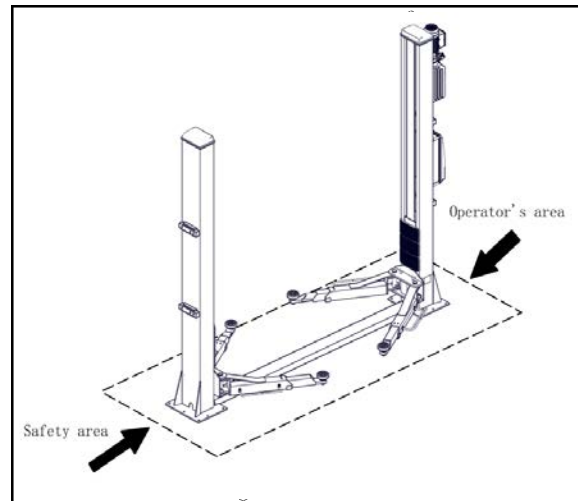

Fig. 8 Working Area
During lift and descent movements, the operator must remain in the command station as defined in figure 8. The presence of persons inside the danger zone indicated in the same figure is strictly prohibited. The presence of persons beneath the vehicle during operations is permitted only when the vehicle is parked in the elevated position.
- ◆ People rest inside the safety area while the vehicle raising. (*Fig. 8*)